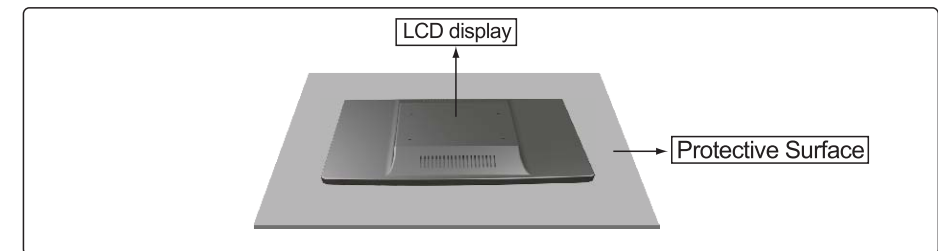

Figure 2-2
2. Carefully place the display face down on protective surface. (See Figure 2-2)